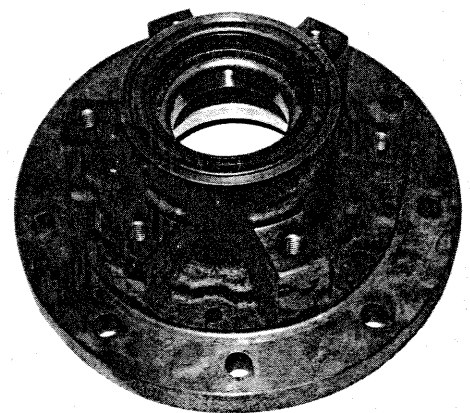

Figure 2 Press oil seal into hub
**STEP 2** Assemble a bearing cone into cup at seal end of hub and press a new seal into hub, (Figure 2).